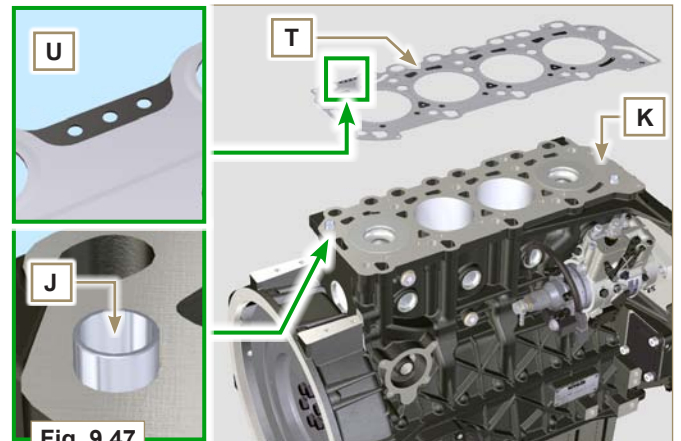

Fig. 9.47
- 4 - Based on the value detected at point 3, select the relevant gasket **T** as shown in the Tab. 9.2 (Fig. 9.47 detail U).